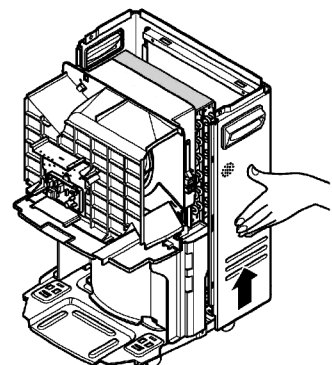

Figure 14
5. Lift up the cabinet a little from the base pan and separate it by pulling out backward. (See Figure 14)